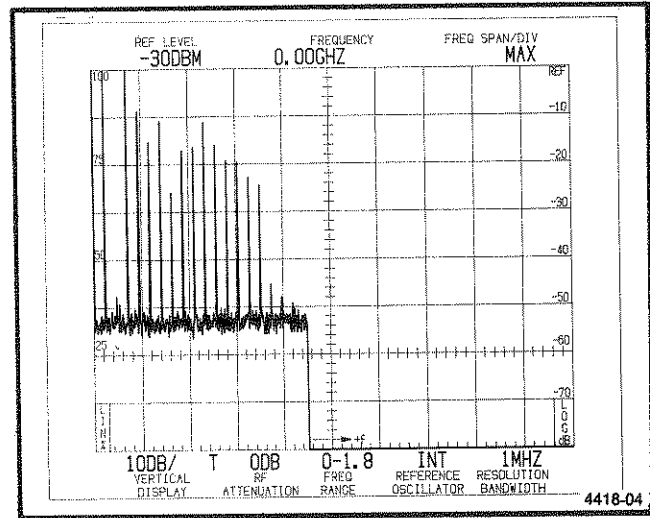

Figure 5-2. Typical display of calibration markers in MAX SPAN position.
c. Apply the CAL OUT signal to the RF INPUT by connecting a 50 Ω coaxial cable between the CAL OUT connector and the RF INPUT. Note the comb of 100 MHz markers at the left side of the display (see Figure 5-2).